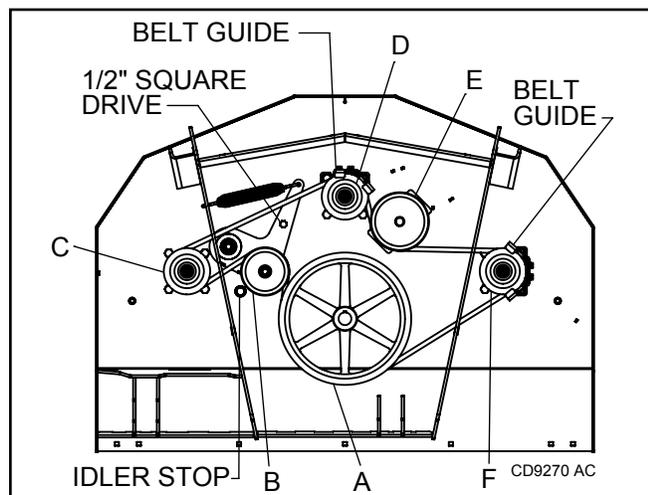

Figure 13. Belt Routing for TBW12.40 Wing Deck
1. Route belt around spindle sheave F, backside idler E, and spindle sheave D as shown in Figures 13–15.
- Route belt around spindle Sheave F, backside idler E, and spindle sheaves C & D as shown in Figures 13–15.